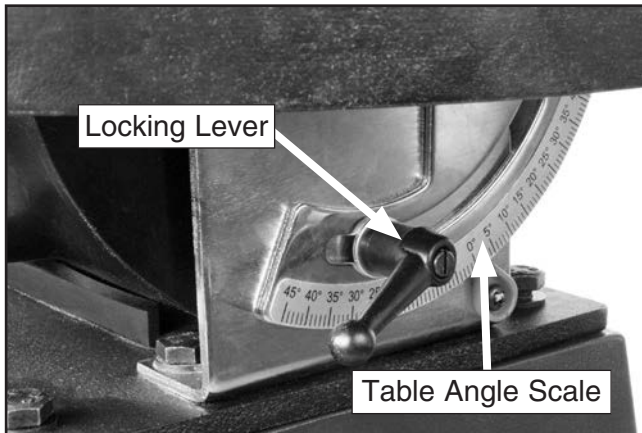

Figure 15. Loosening table tilt lock lever.
1. Loosen locking lever shown in **Figure 15** by rotating counterclockwise.